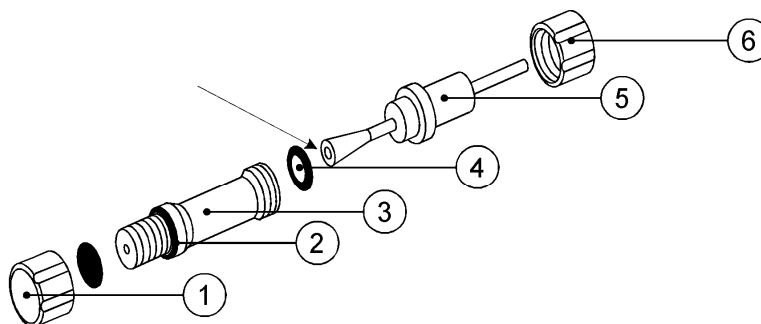

Fig. 7. Exploded view of the reference electrode. The arrow indicates the tip of the AgCl coated silver rod. See Table III for description and numbers.
6. Fig. 7).
11. Fig. 7, arrow) has a non-metallic appearance by gently grinding it on sanding paper; also the AgCl can be gently resurfaced in this way.
Always assemble the two halves of the cell body first, prior to fitting the working electrode assembly. To prevent the spacer from moving keep the flow cell with the inlet block down as illustrated in Fig. 7.